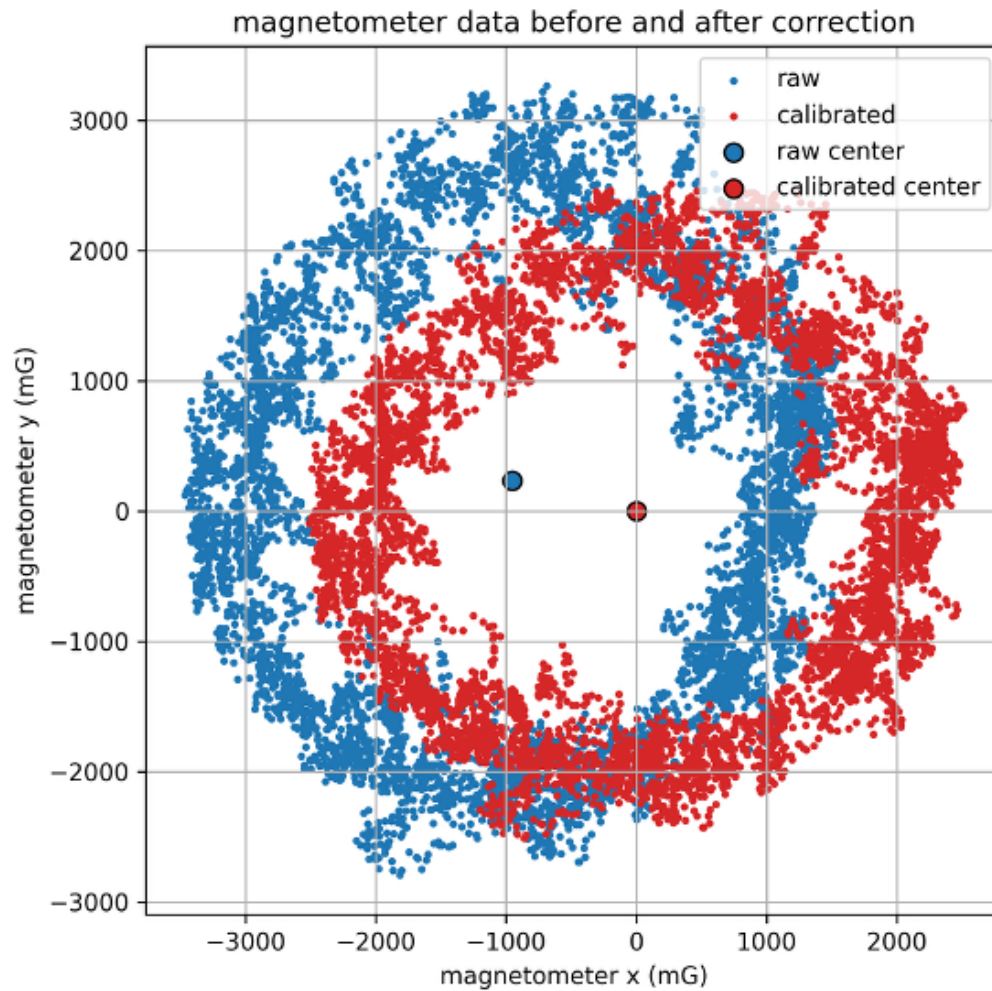

Figure 1: Magnetometer calibration for circle walking - before and after calibration
**Task:** Plot the N vs. E components of magnetic field and apply calibration to your dataset. Plot two marker styles on the same figure to display the data before and after calibration (Fig. 1).